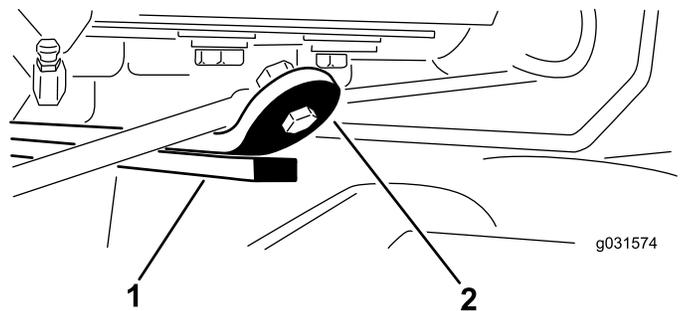

Figure 9
3. Start the engine, raise the cutting units, and ensure that the clearance between the wear strap on the top of the rear-cutting-unit wear bar and the bumper strap is 0.51 to 2.54 mm (0.02 to 0.10 inches) as shown in Figure 9.